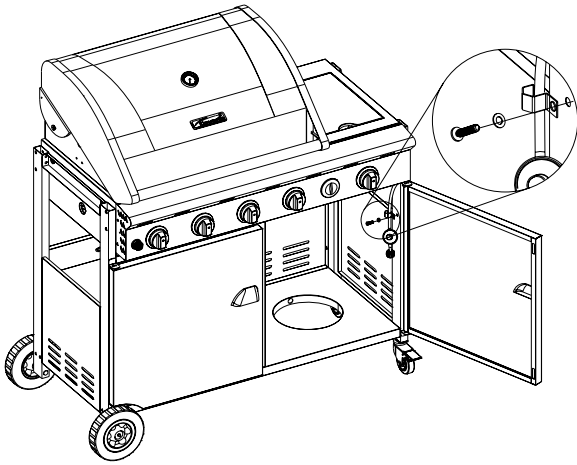

Figure 13
1. Attach the regulator hose clamp and the regulator hose to the right front leg with (10) $\frac{1}{4}$ x $\frac{3}{5}$ " Phillips head screws and (1) $\frac{1}{4}$ " lock washer as below shown. (Fig. 13)